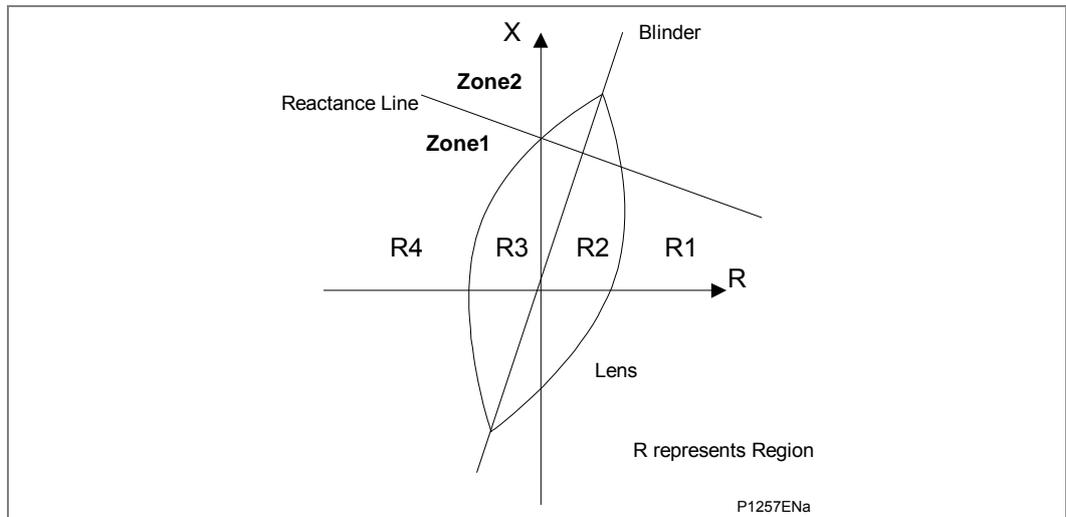

Figure 69 - Regions and zones definition (generating mode)
*Note*      *The regions shown in Figure 69 are independent of the reactance line although it is shown in the same diagram (zones are independent of the lens and the blinder).*